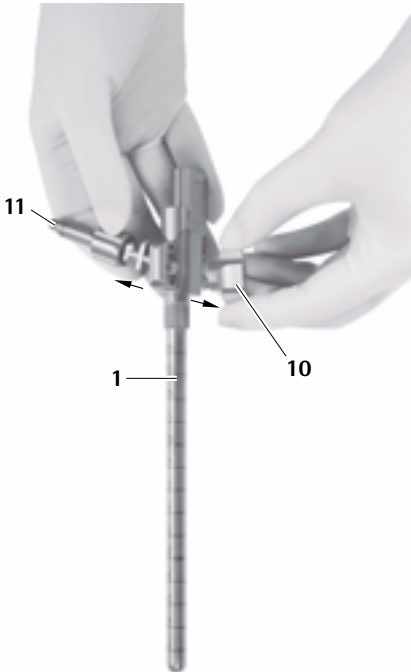

Fig. 13
- ▶ Remove holding arm adapter **11**, see Fig. 13.